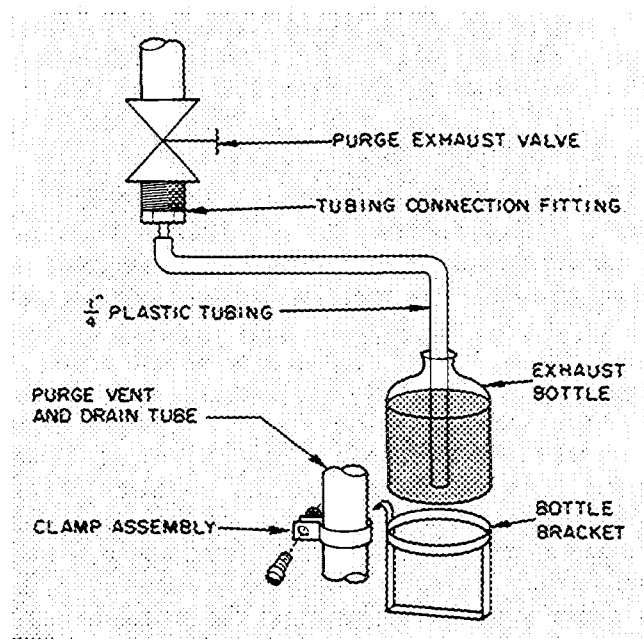

Fig. 21 — Purge Exhaust Assembly
3. Keep end of plastic tube (Fig. 21) below the liquid level in plastic bottle.
6. Open the exhaust valve slowly (Fig. 21). If the liquid level in the exhaust bottle drops, close valve and wait approximately 2 minutes.
7. Return purge to normal operation. Replace exhaust bottle (Fig. 21). Open solution return valve (item E, Fig. 5) and then the purge valve (item 36, Fig. 1) found on some models.